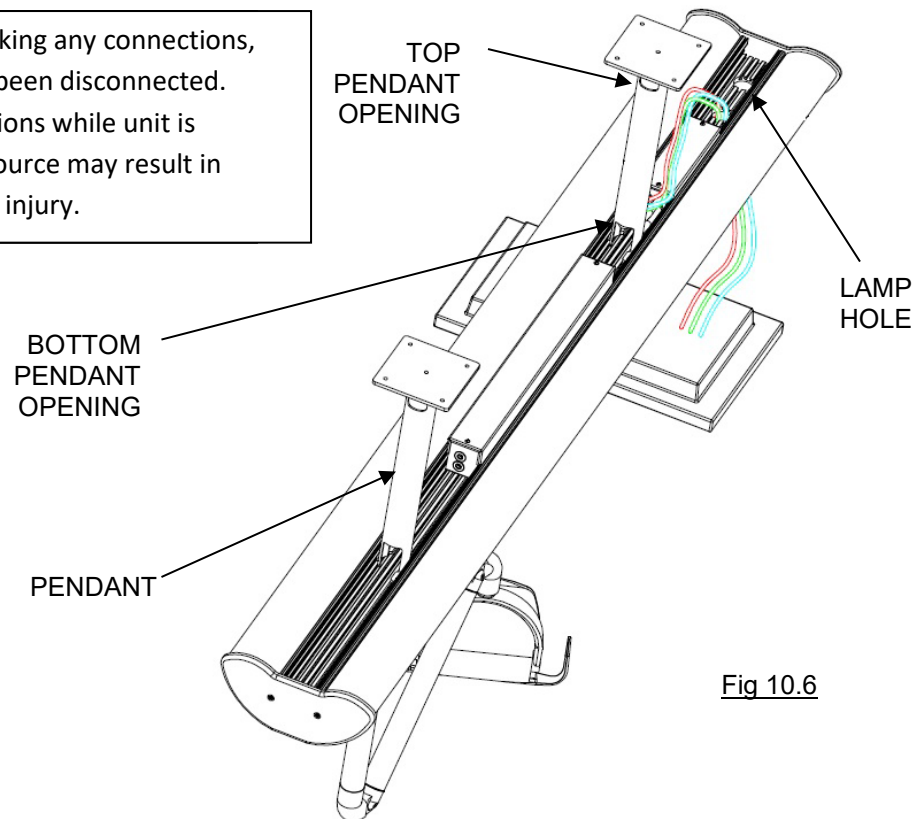

Fig 10.6
5. Wiring for the MONITOR is fed from the incoming power line through the top PENDANT OPENING. Run wiring through the bottom PENDANT OPENING and then through LAMP HOLE (Fig 10.6).